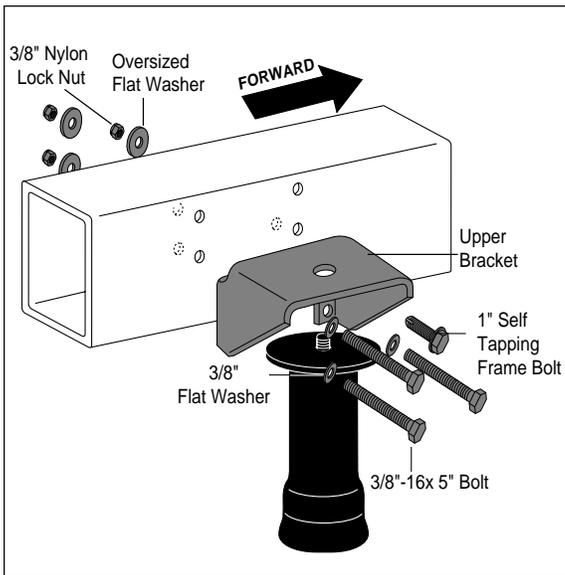

Figure 4
*NOTE: '95 and Older Chevrolet/GMC Vans only require the use of a self tapping frame bolt in the upper forward mounting hole on the passenger side only. Drill a  $\frac{5}{16}$ " hole (no larger) for the self taper, but do not install at this time. All other attachments use the  $\frac{3}{8}$ " x 5" bolts (Figure 4).*